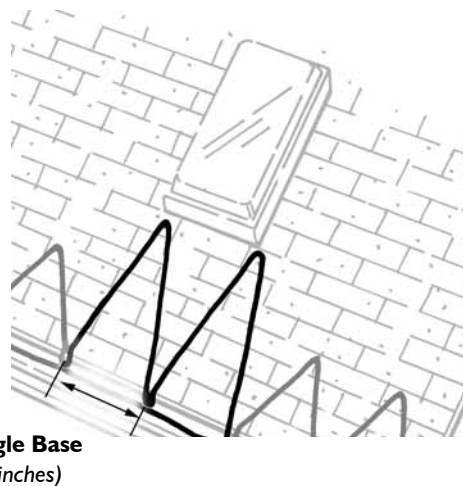

Figure 5. Triangle pattern near skylight
- **Pattern for skylights:** Problem skylight areas are also treated with the “triangle pattern” approach. However, the height of the triangles may need to be greater than those along the roofline. Increase the triangle height so that it extends to one shingle row (5½ inches) below the skylight. The triangle base is maintained at 15 inches (See Figure 5).